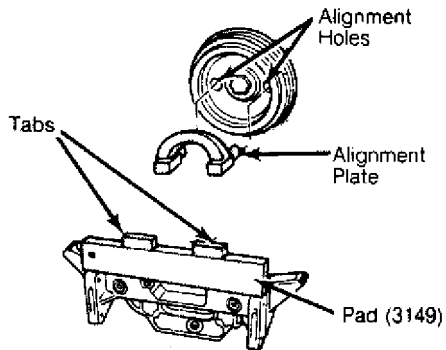

Fig. 6: Removing Front Crankshaft Pulley
3) Insert Alignment Plate (3149) into pulley. See Fig. 6.